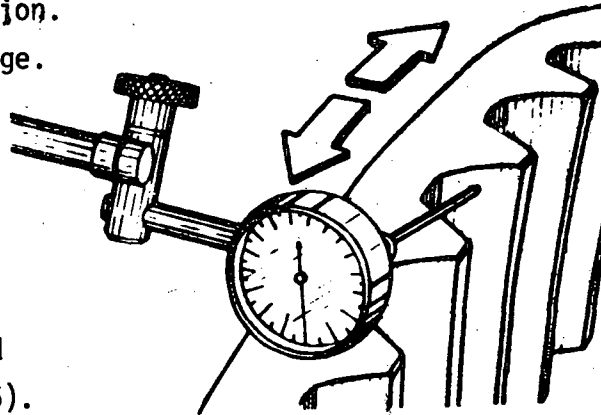

Fig. 6
- c) Measure the clearance between the teeth at various points around the ring gear (Fig. 6).